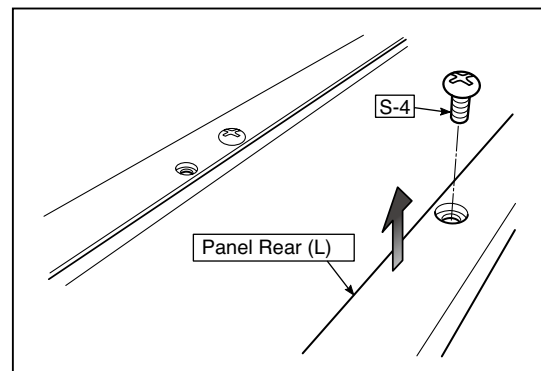

Fig.25
2. Remove the "S-4" and "S-7" screws shown in the figure 25 and then remove the Panel Rear (L).